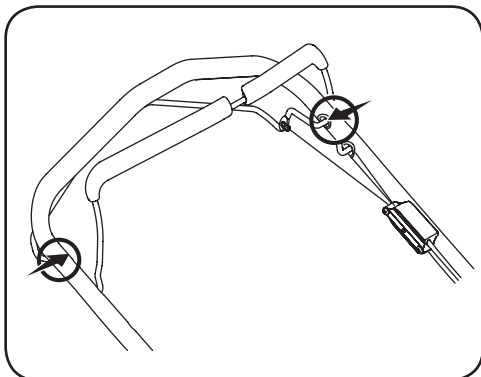

Figure 4-2
2. On 280 Series models equipped with a drive control, also lubricate pivot points on the drive control lever at least once a season with light oil. This control must operate freely in both directions. See Figure 4-2.